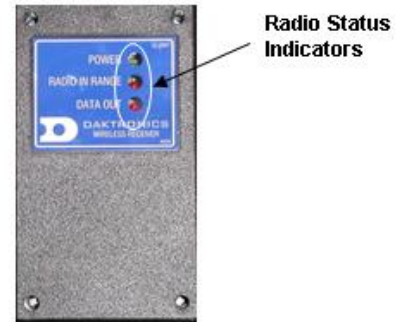

Figure 20: Radio Receiver w/ Cover
3. The radio receiver has a plastic cover. Three status indicator LEDs are visible (**Figure 20**).